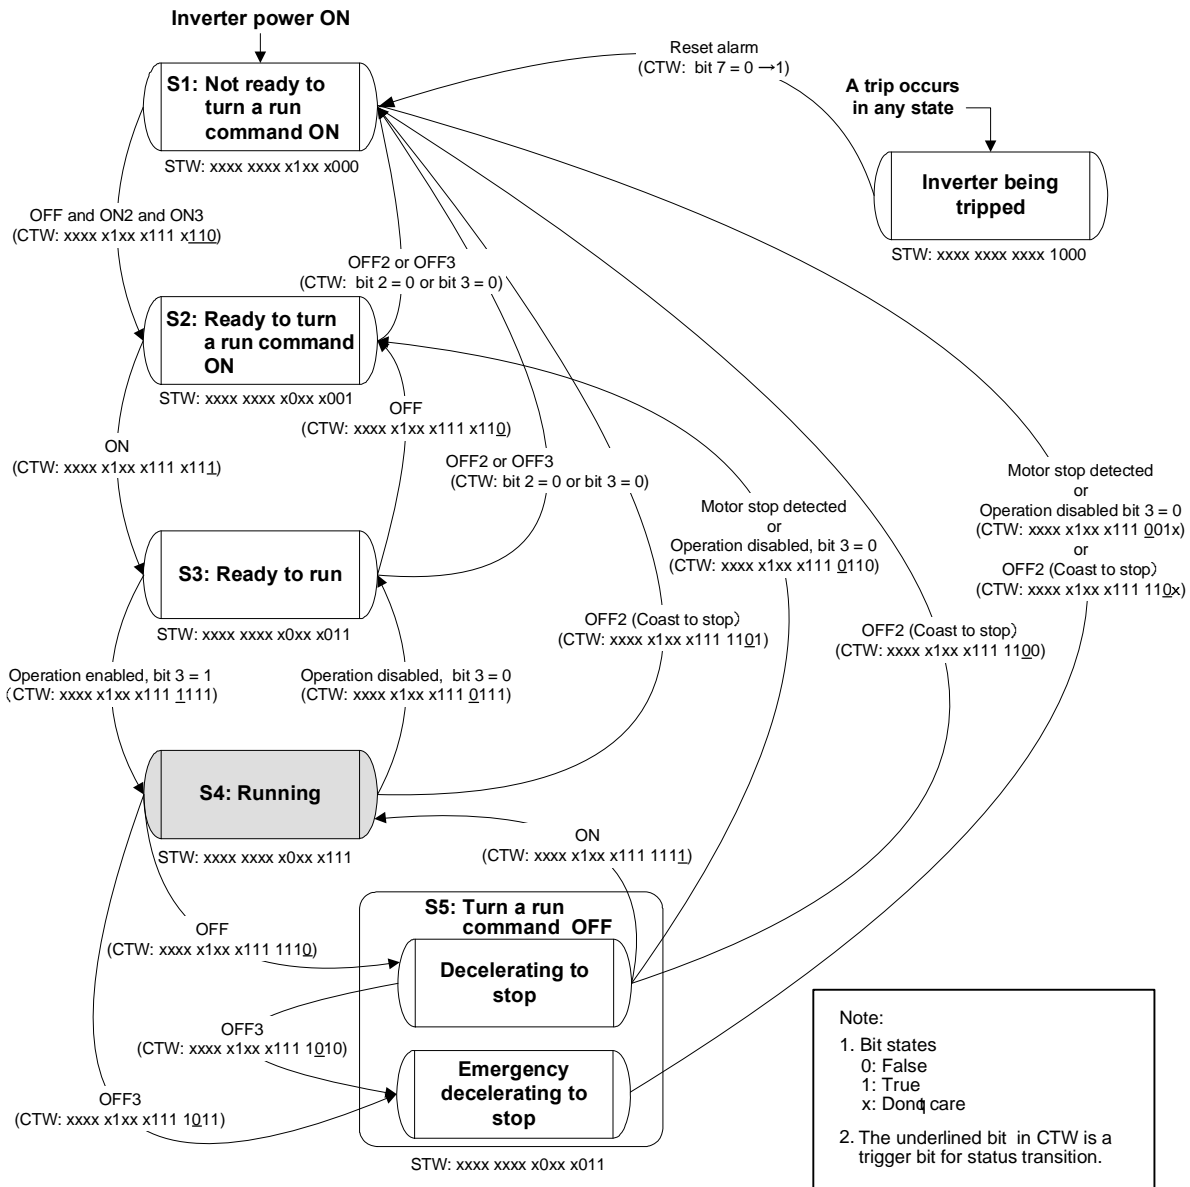

Figure 8.2 Status Transition Diagram of PROFIdrive Profile
For the status transition condition of the PROFIdrive profile, refer to Section (2) "STW (status word)" and Figure 8.2 on the following pages.
STW indicates the status transition of the PROFIdrive. The status transition details are shown in Figure 8.2.
Figure 8.2 shows a status transition diagram of the PROFIdrive profile.
Note In Figure 8.2, to simplify the description, values of Bit 4 to Bit 6 and Bit 10 in CTW are always "1." If any one of these bit values is not "1," the inverter will not enter the running state even if the status transition properly proceeds.